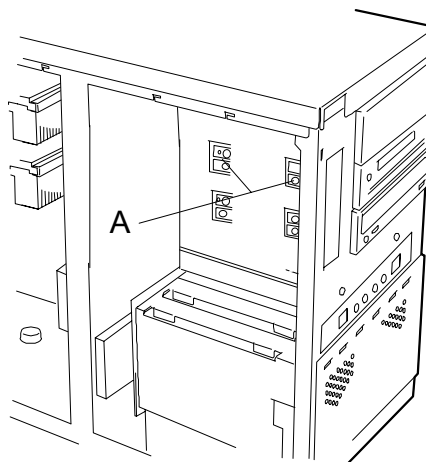

Figure 4-31. Securing a Removable Media Device
12. Secure the left side of the device to the device bay with two screws supplied. See Figure 4-31, A.